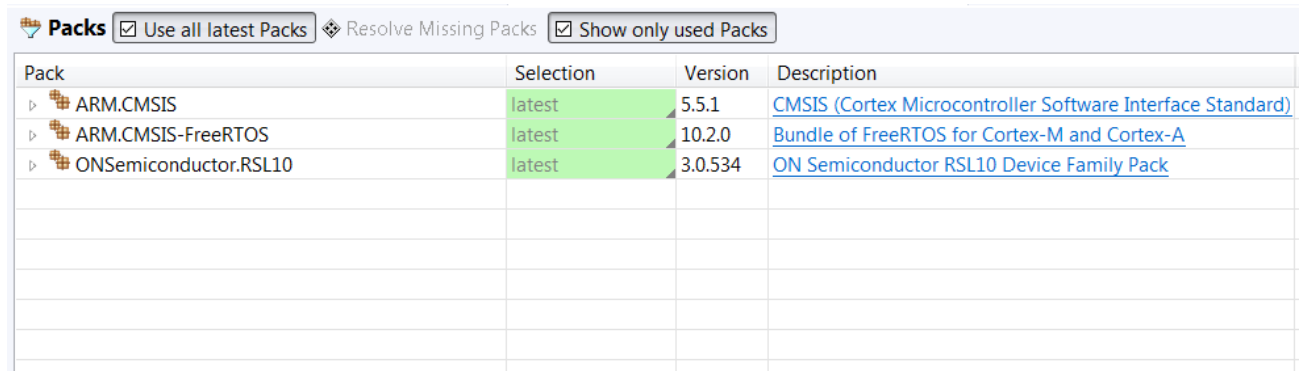

Figure 43. RTE Configuration Perspective After Resolving Pack Dependencies
- The IDE prompts you to read and accept the license agreement, then installs the missing Packs. The figure "RTE Configuration Perspective After Resolving Pack Dependencies" (Figure 43) illustrates the RTE configuration after resolving missing Packs.